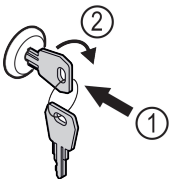

Fig. 124 Example illustration
- Insert key Fig. 124 (1).
- Turn key clockwise by 90° Fig. 124 (2).